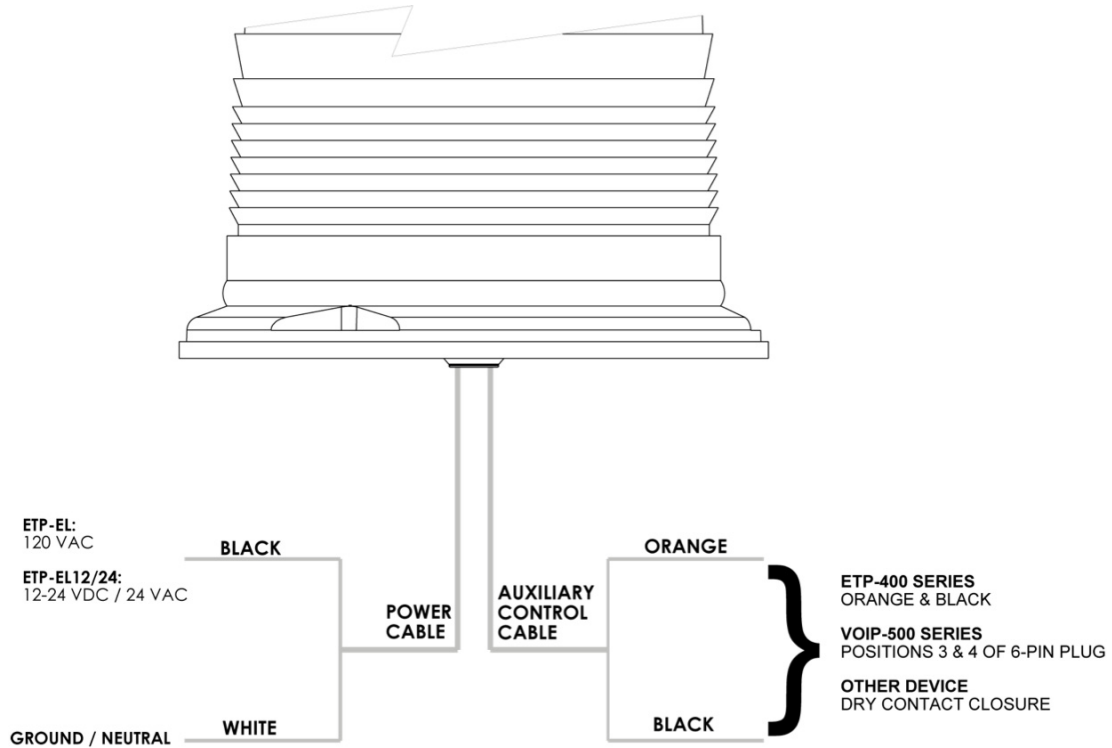

Figure 1: Electrical connections to the ETP-EL and ETP-EL12/24 (polycarbonate base) blue light strobes
6. The 120VAC model **ETP-EL** (polycarbonate base) blue light strobe can be connected to the 120VAC output voltage of the power source. If using the **ETP-EL12/24** (polycarbonate base) blue light strobe, connect the power cable to either the 12-24VDC or the 24VAC output voltage of the power source (shown in **Figure 1**).